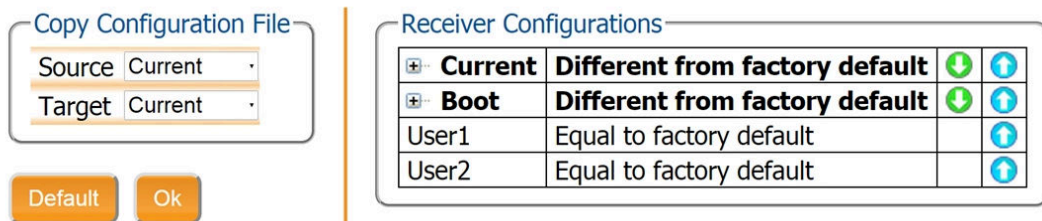

Figure 8-3: Web Interface Admin-Configurations
2. Select **Configurations**. The Configurations tab will resemble Figure 8-3.